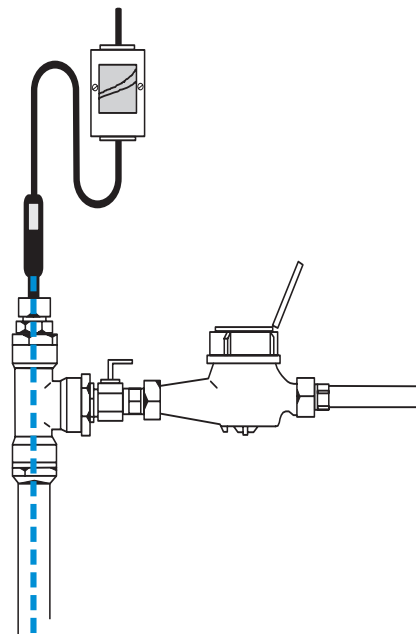
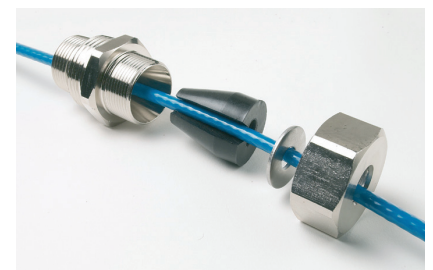

Fig. 10
Fig. 11
3. The cable is installed inside the pipe, see fig 10. The Special Pipe fitting (3/4"+1", 10 bar @ 23 °C) is required for heating cable connection to the pipe, see fig. 11.